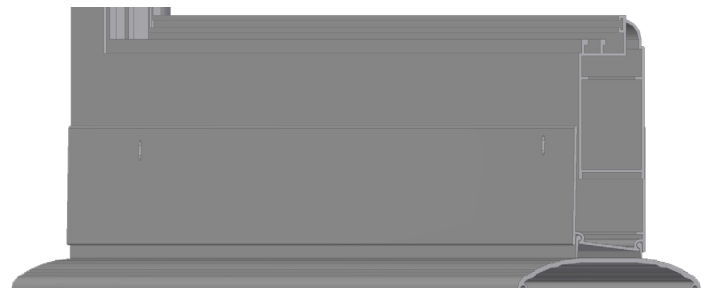

Figure 6
10. Slide the adjustable sill expander (sweep) on the bottom of the door with the attachment holes toward the inside. **See Fig. 6.**
11. Position the rubber flaps on the adjustable sill expander (sweep) so they meet and seal properly with the floor or threshold (if you are using it). **See Fig. 6.**
12. Drill 7/64" hole at the center of each elongated slot. Apply the #6 x 1/2" color matched screws (provided) to secure the expander (sweep). **See Fig. 6.**